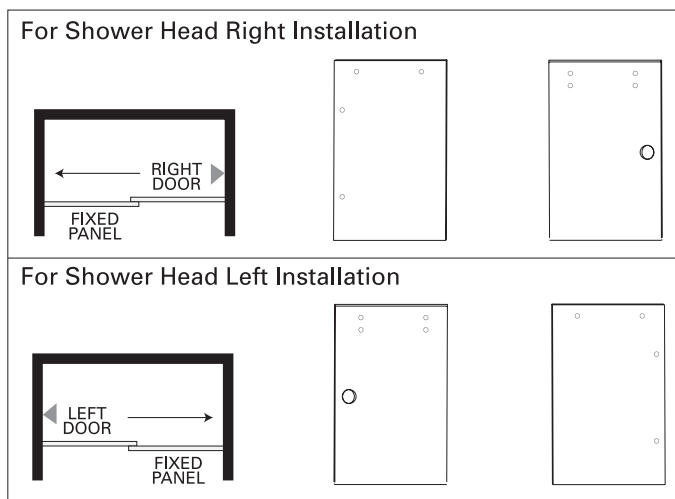

Figure 2
**NOTE:** Views and directions given in these instructions - left, right, front, back, etc. - are from outside the enclosure, facing the tub/shower (see configuration diagram in Figure 2).